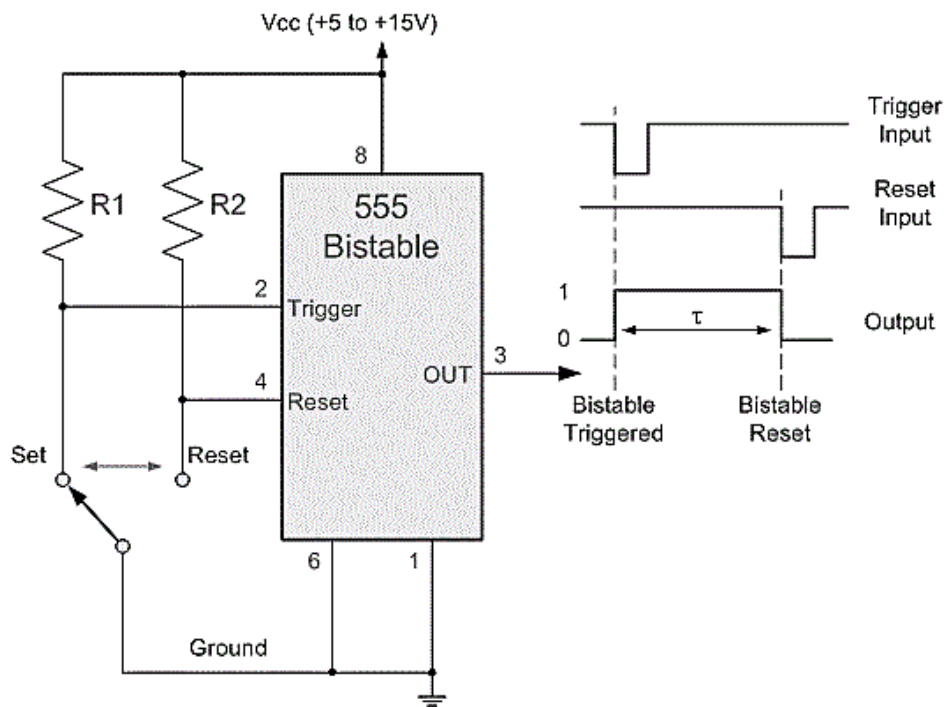

Figure 3.8a: Bistable mode with change-over switch trigger
- b. **Bistable Mode:** A bistable circuit is one that has two stable states, either on or off. Typical applications of bistable circuits are memory cells, flip flop circuits, and switch debouncers. Figure 3.8a shows a typical bistable circuit.